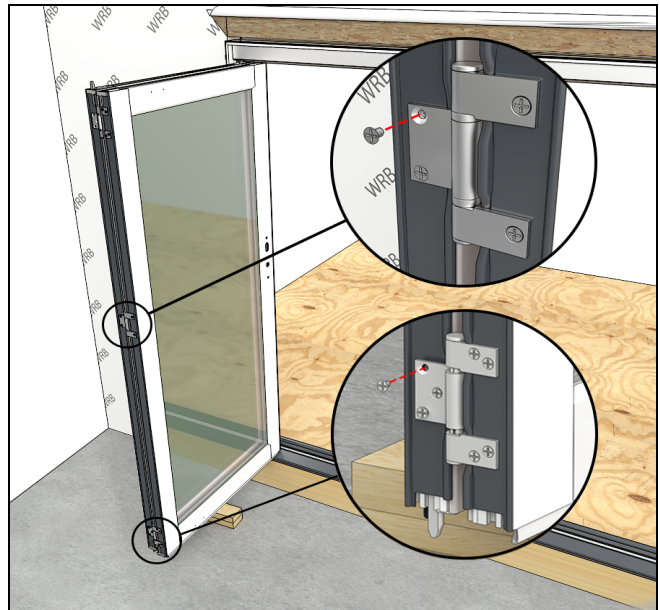
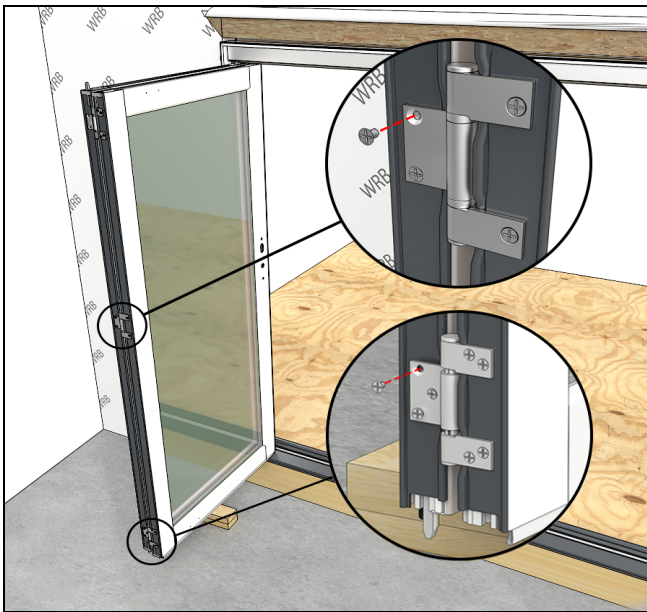

Figure 40
Figure 41
7. Remove the set screw with the provided 3/32" Hex key and fasten the remaining screws. See Figure 40 and Figure 41